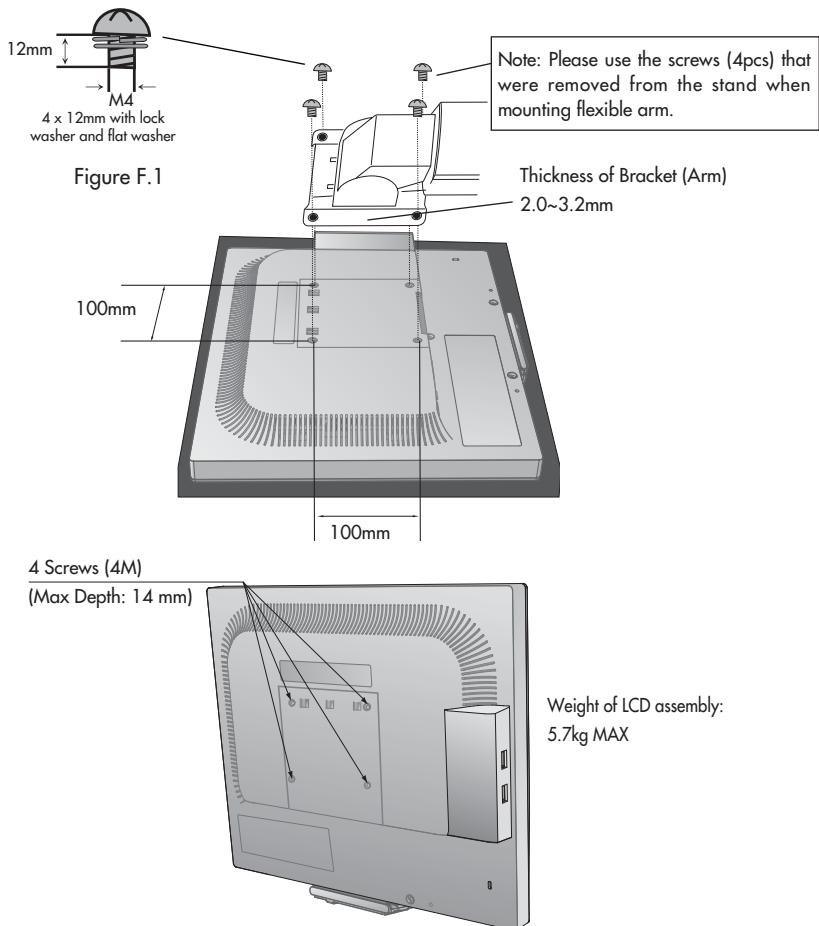

Figure F.1
2. Using the 4 screws that were removed from the stand, attach the arm to the monitor (Figure F.1).